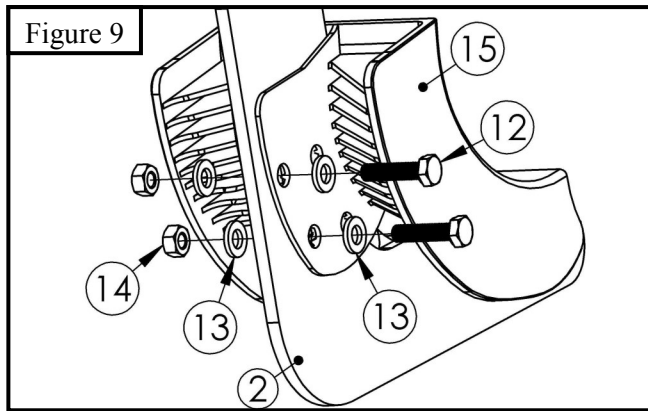

Figure 9
6. Locate (1) plastic bracket cover (Item 15) and loosely secure it to the (4) brackets using the provided hardware: (2) M6 hex head cap screws, (4) M6 flat washers, and (2) M6 nylon nuts per bracket. Repeat for every bracket. (**Figure 9**)